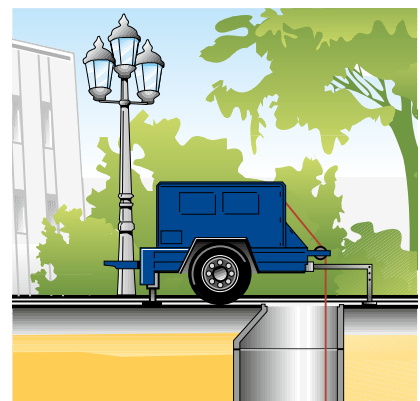

Fig. 2: Winch on the target shaft
3. Pulling in the pipe. (Fig. 1, Fig. 2)